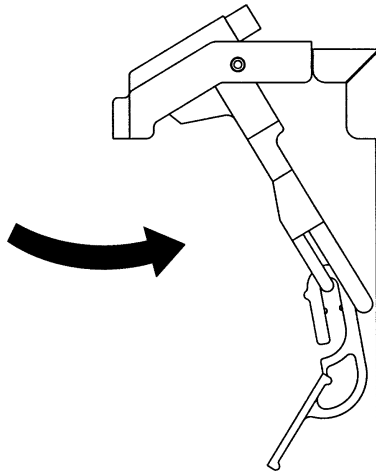

Fig. 6
- b) Allow the unit to cycle into the freeze mode. This occurs when the pump motor starts to supply water upwards, through the supply tube. After 1-2 minutes in freeze, move the bin switch paddle fully to the right See Fig. 6.